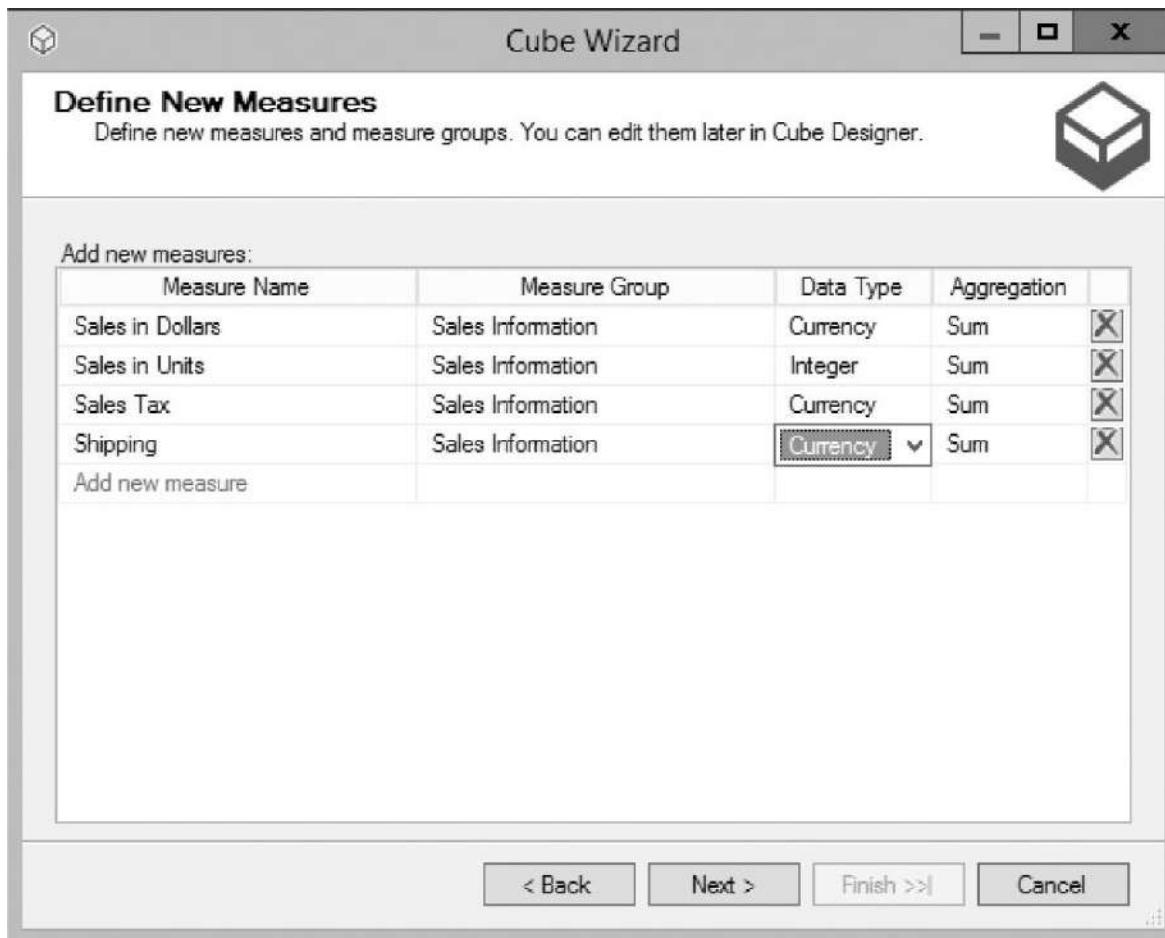

Figure 6-26 After defining the measures in the Cube Wizard
25. Select Currency in the Data Type column. Sum should be selected by default in the Aggregation column. The Define New Measures page should appear as shown in Figure 6-26 .